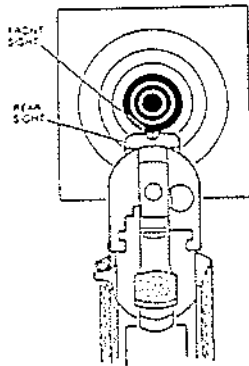

FIGURE 5--AIMING
3. Grasp pistol by stock and, with index finger resting along the outside of trigger guard, take aim. Aim by aligning target with front and rear sights. (See Figure 5). After identifying your target and seeing that it is clear to shoot, focus on the front sight. Be sure you have a safe backstop. **THINK!** *What you will HIT if you MISS the target?*